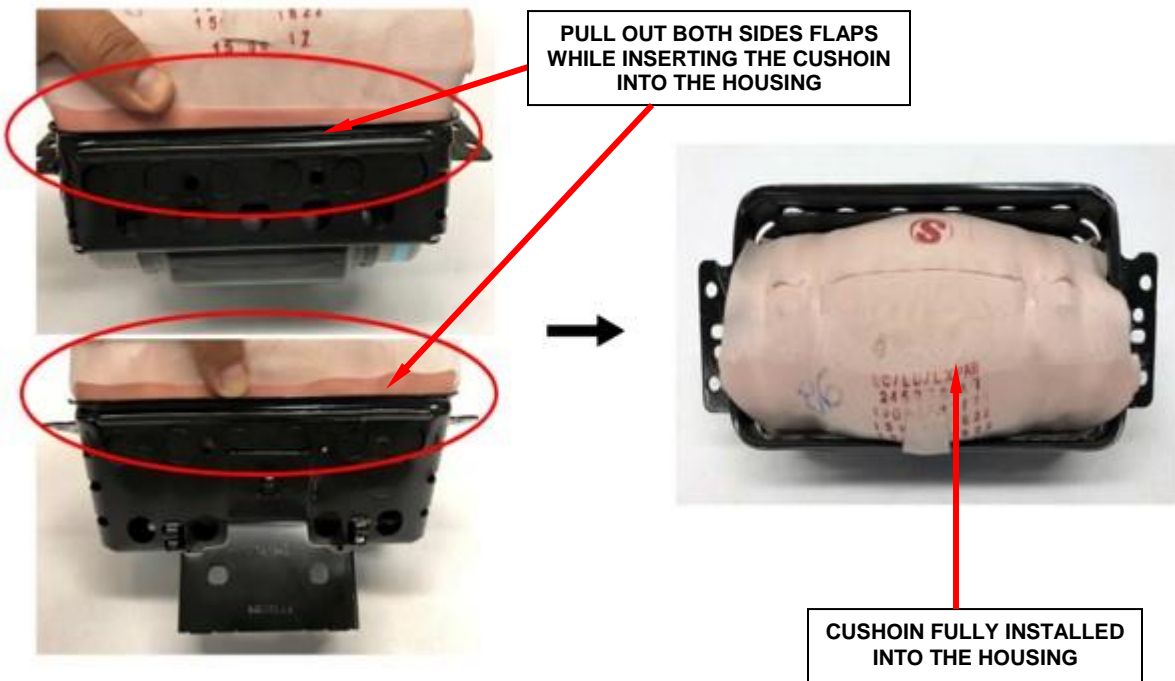

Figure 78 – Side Flaps Must Be Held Out
1. Insert the cushion, pulling out both side flaps (Figure 78).